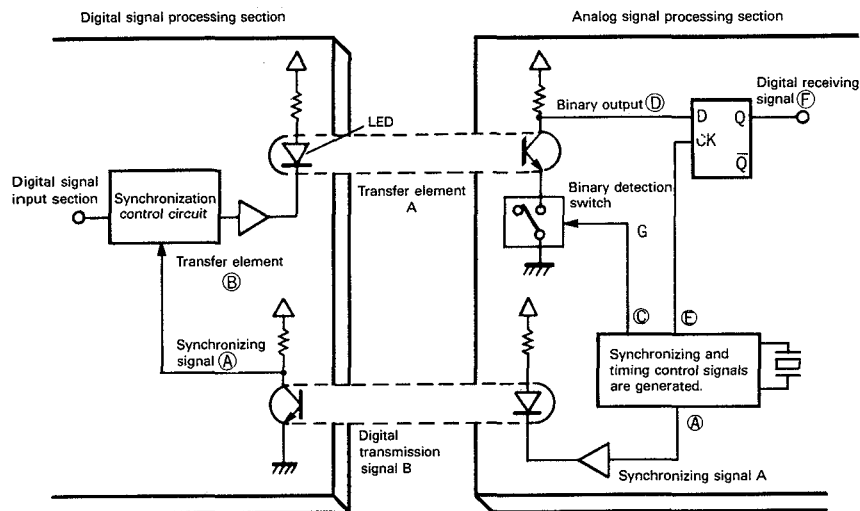

Figure 4. Conceptual diagram of K2 interface operation
5) K2 Interface Operation: Figures 4 and 5 show the circuit configuration and binary transmission timing chart, respectively. The crystal oscillator used as the synchronous reference is placed in the analog signal processing section, in which all synchronizing signals and timing control signals are generated. The synchronizing signal is transferred to the digital signal processing section via transfer element B. The binary data from a disc is transmitted as digital transmission signal ② to the analog signal processing section via transfer element A.